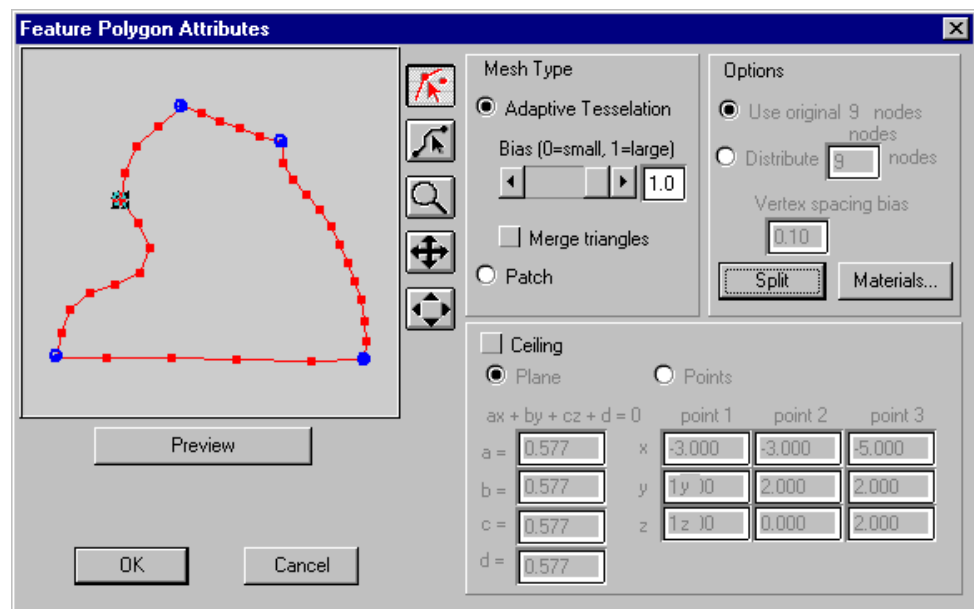

Figure 2-8 Feature Polygon Attributes Dialog
4. Click on the node at the center of the left arc as seen in Figure 2-8. Then select the *Merge* button. This will merge the two arcs together and treat them as one side to the patch. Notice that the *Patch* option is now undimmed.